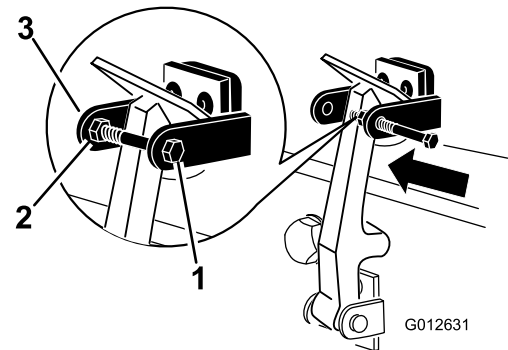

Figure 6
- Screw the bolt into the other arm of the hood-latch bracket to lock the latch in position (Figure 6). Tighten the bolt but do not tighten the nut.